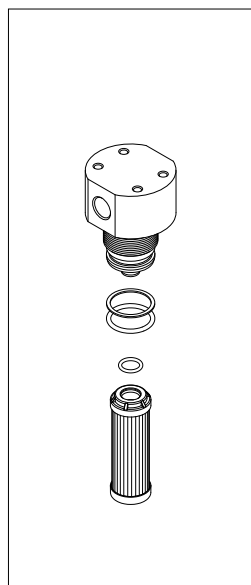

fig. 9
- (Fig. 9) Fit #1: the anti-extrusion ring and #2: the O-ring in the bowl groove, insert the O-ring in the filter element cap